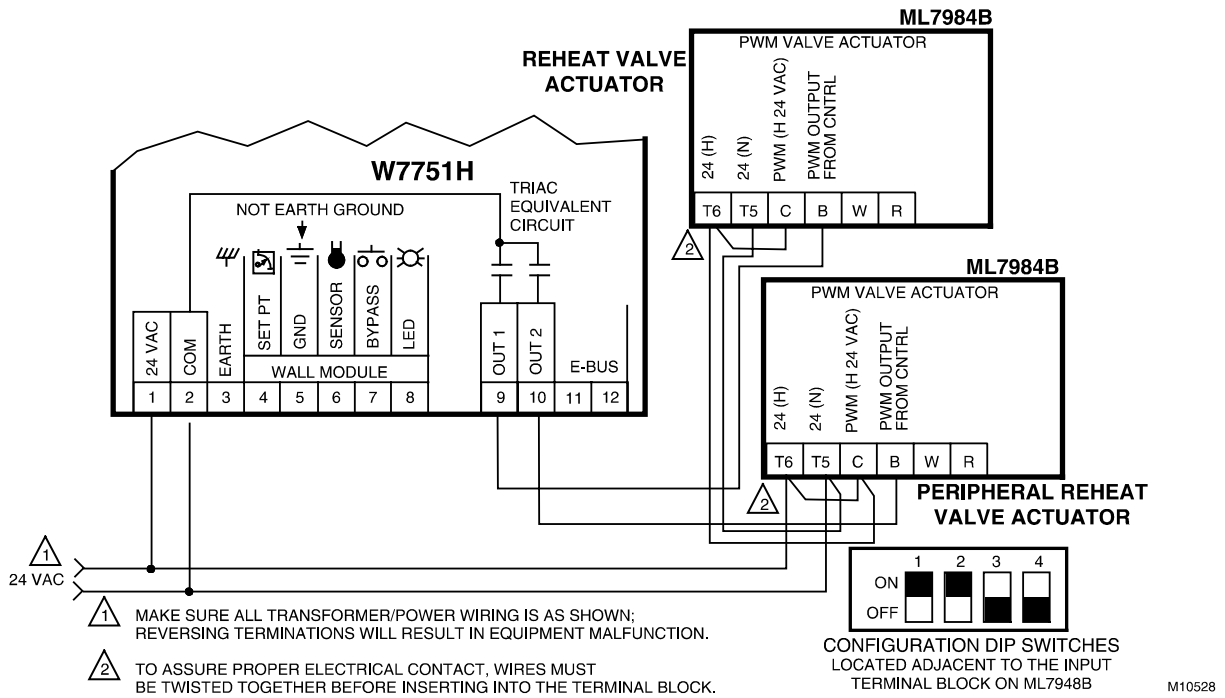

Fig. 20. W7751H to PWM Valve Actuator.
**NOTE:** Make sure to set the Configuration DIP Switch as shown in Fig. 20. Switches 1 through 3 set the timing of the ML7984B valve actuator to match the W7751H outputs (0.1 sec. min. with a max. time of 25.6 sec.). Switch 4 determines the action of the actuator (Off = Direct Acting, On = Reverse Acting).